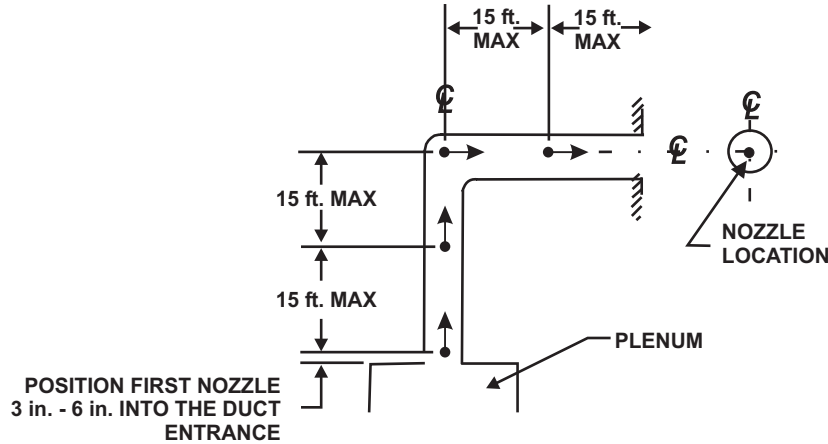

Figure 3-9. Exhaust-Duct Parameters (1)
When exhaust-duct protection is provided using one Duct/Plenum nozzle off an IND-75 (BC) cylinder, the nozzle coverage provided is for the first 15 feet (4572 mm) of straight unobstructed duct. Supplemental coverage of the exhaust duct must be provided for exhaust ducts greater than 15 feet (4572 mm) in length or those with obstructions or changes in direction. The IND-25 (BC) or IND-50 (BC) shall be used for supplemental exhaust duct coverage. Refer to Figure 3-9 for nozzle placement in ducts with changes of direction.